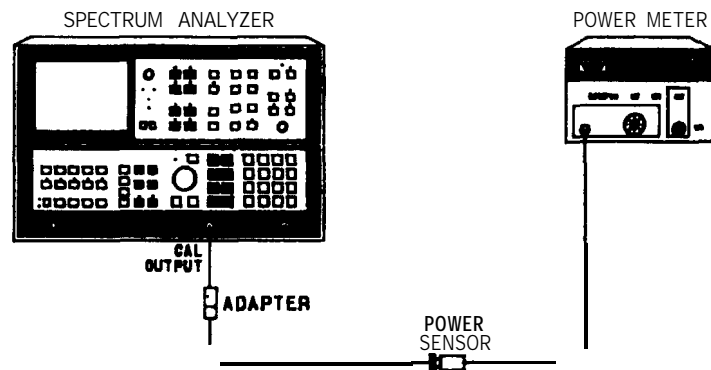

Figure 2-13. Calibrator Amplitude Accuracy Test Setup
1. Connect equipment as shown in Figure 2-13.